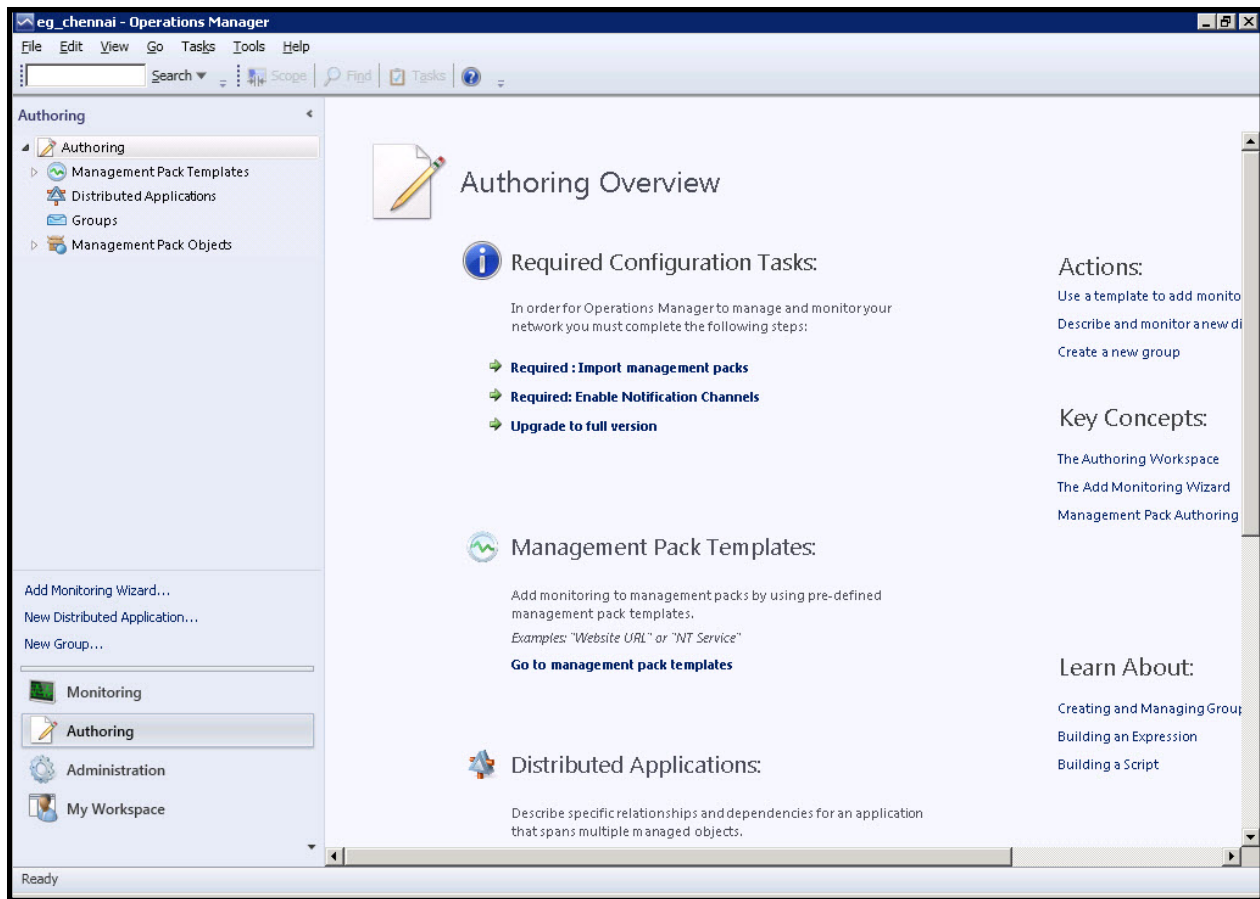

Figure 3.14: Clicking on the Authoring tab
1. Login to the SCOM console and click the **Authoring** tab indicated by Figure 3.14 below: